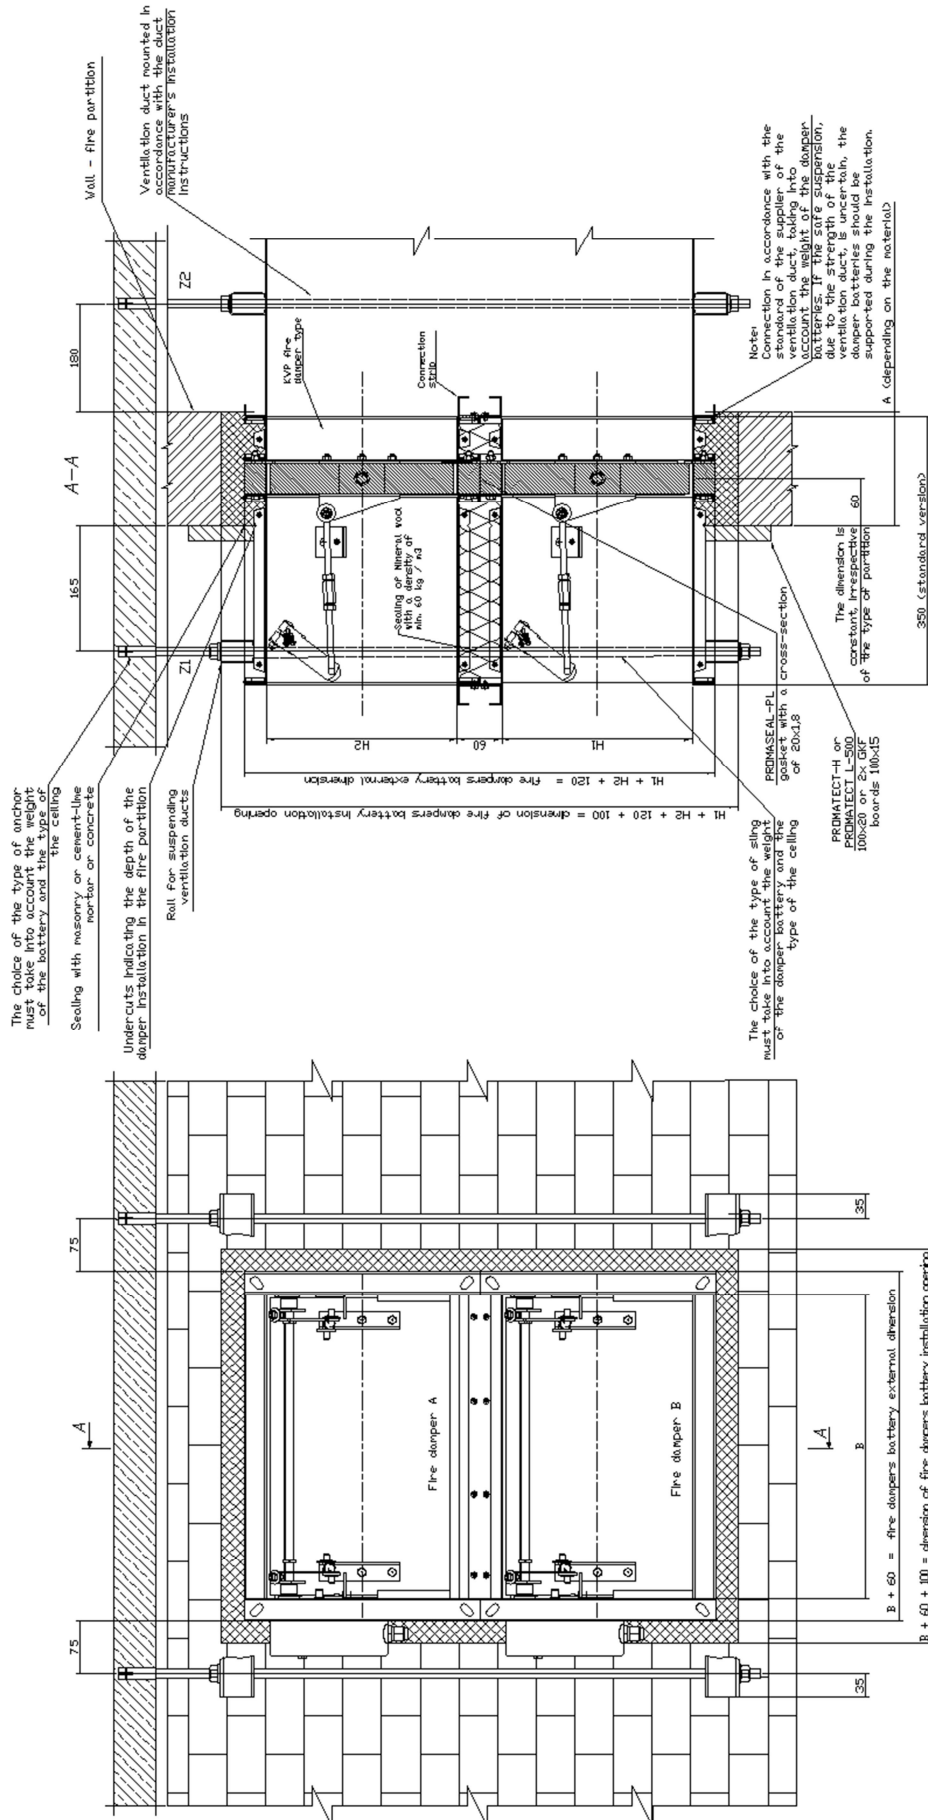

Figure 17. Installation of a battery consisting of two fire dampers KWP in vertical arrangement in wall
- For horizontal battery consisting of two KWP fire dampers:  $(B1+B2+180) \times (H1+120)$  (Figure 17),